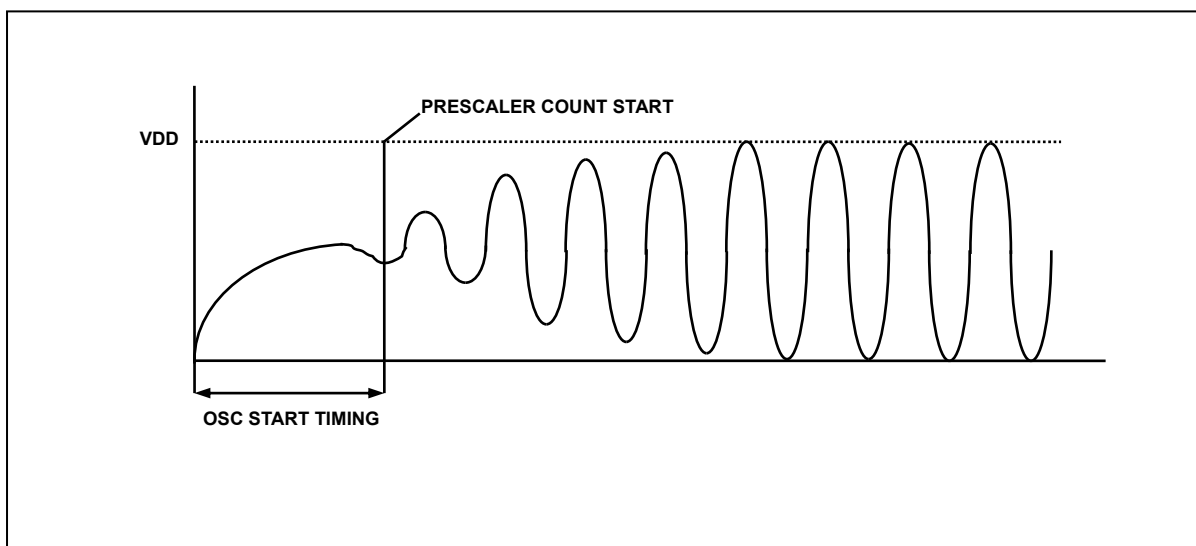

Figure 6.8 Oscillator generating waveform example
1. as shown Figure 6.8, the stable generating time is not included in the start-up time.